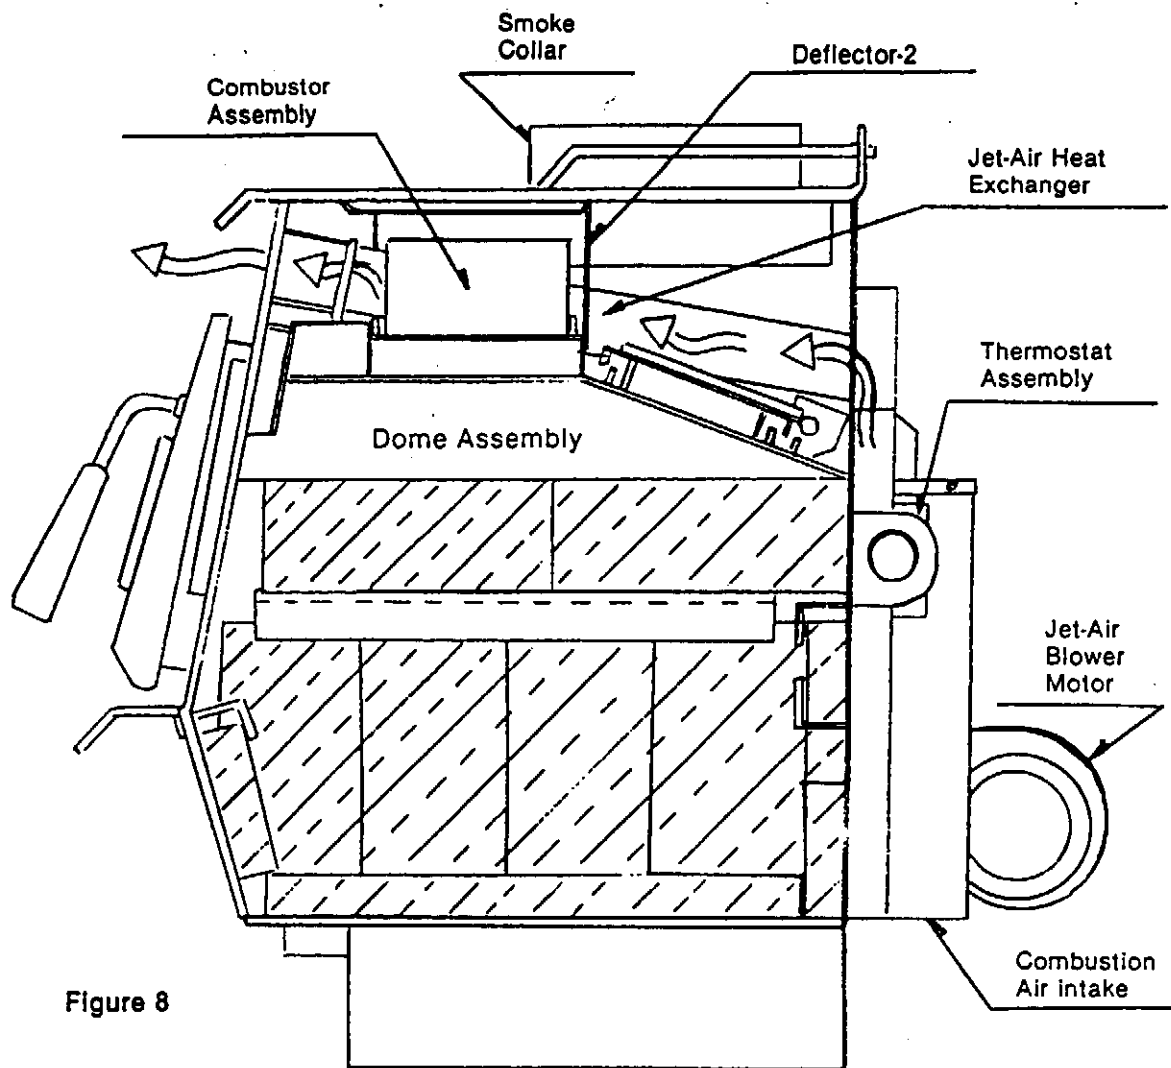

Figure 8
10. Install the Combustor. Do not handle it any more than necessary for installation. The Combustor will have a stainless steel band holding an insulating material in place. This insulating material will expand when heated the first time, to seal the Combustor in place. Remove and retain the 5½" wide deflector-2 covering the combustor seat. Reach in through the flue opening and set the Combustor in place on the Combustor Seat which is mounted on top of the Dome. See Fig. 8. Install Deflector-2.